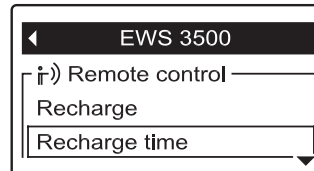

FIG. 111
3. Press the DOWN (▼) button to scroll through the menu options until **Recharge time** is highlighted in a box (See Figure 111).
6. Press the SELECT (O) button. The display will go back to the conditioner/refiner menu (Figure 111).